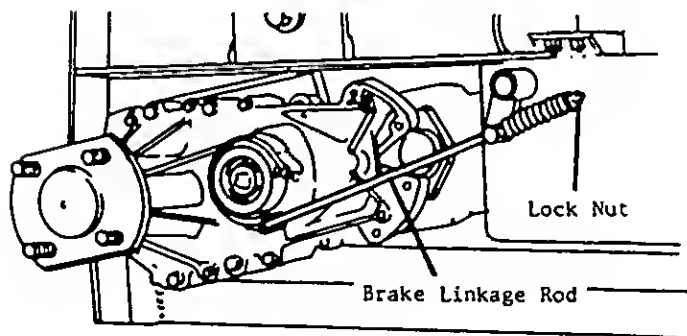

FIGURE 12A
3. Shorten brake linkage rod by turning locknut clockwise (see Fig. 12A) until wheel can not be turned by hand.